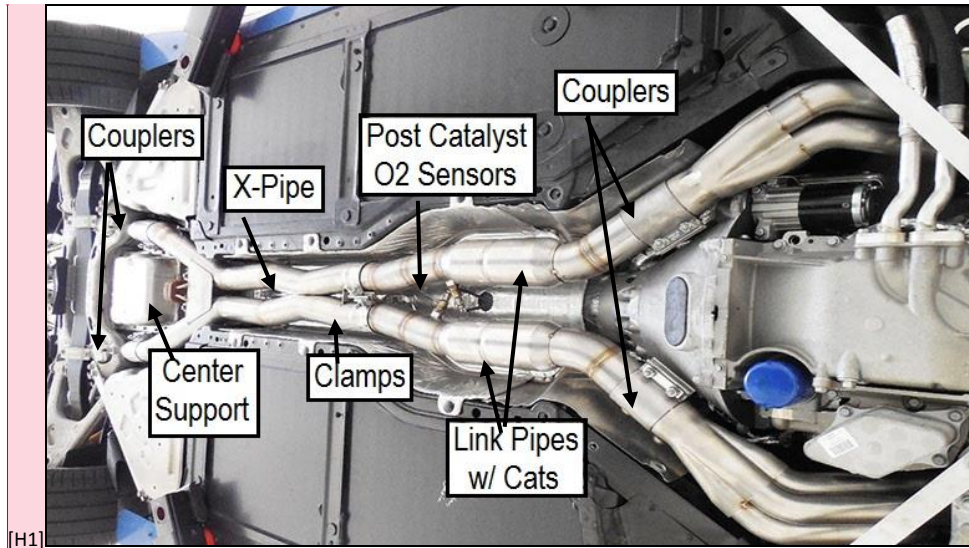

Figure 6
1. Install the 76mm band clamps onto each inlet pipe of the Blackheart X-pipe (expanded end with notches). The clamps need to be configured so the threaded stud of the clamp is positioned to align with the cut out in the lower skid plate (**Figure 6**).
2. Install the RIGHT link pipe (long link pipe) into the X-pipe's short expanded end (**Figure 6**). Tighten the clamp to allow for adjustment.
3. Install the LEFT link pipe (short link pipe) into the X-pipe's long expanded end (**Figure 6**). Tighten the clamp to allow for adjustment.
6. Install the 3" TORCA couplers onto the outlet of the X-pipe with the bolts towards the transmission and the nuts facing down (**Figure 6**).